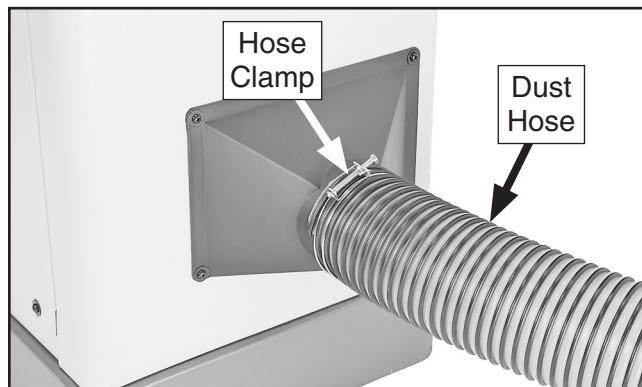

Figure 16. Example of dust hose attached to dust port.
1. Fit 4" dust hose over dust port, as shown in **Figure 16**, and secure with a hose clamp.